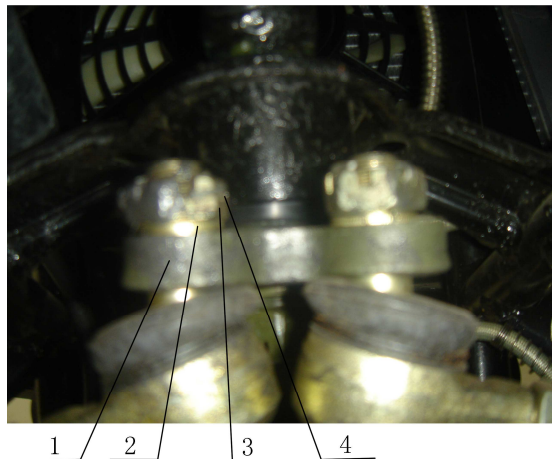

Figure 4-1-11
4. Fix the tension rod into the conical bore of the steering vertical column with tension rod components (2sets), cushion  $\phi 12$  (2pcs), M10 hexagon open-groove nuts (2pcs) and cotter pins  $3.2 \times 32$  (2pcs). Figure 4-1-11